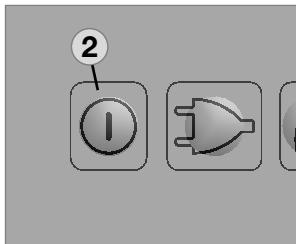

Fig. 46
- Switch off MES and AES models by pressing button (2). Keep button (2) pressed for 3 seconds. The display disappears, and the appliance is fully switched off (Fig. 46).